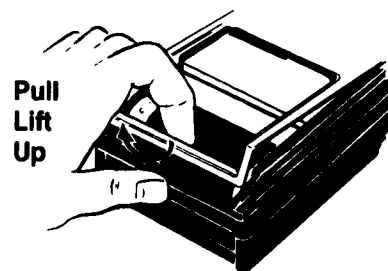

Fig. 4
- a) Remove top cover—pull bottom ledge of frame toward you and lift. The top cover will come loose (see fig. 4).